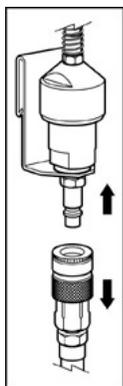

Fig. 19
1. Ensure the 3M supplied air hose is connected to the air control valve or low pressure connector. To connect, pull back on the socket end of the supplied air hose while inserting it onto the plug end of the air control device. (Fig. 19)